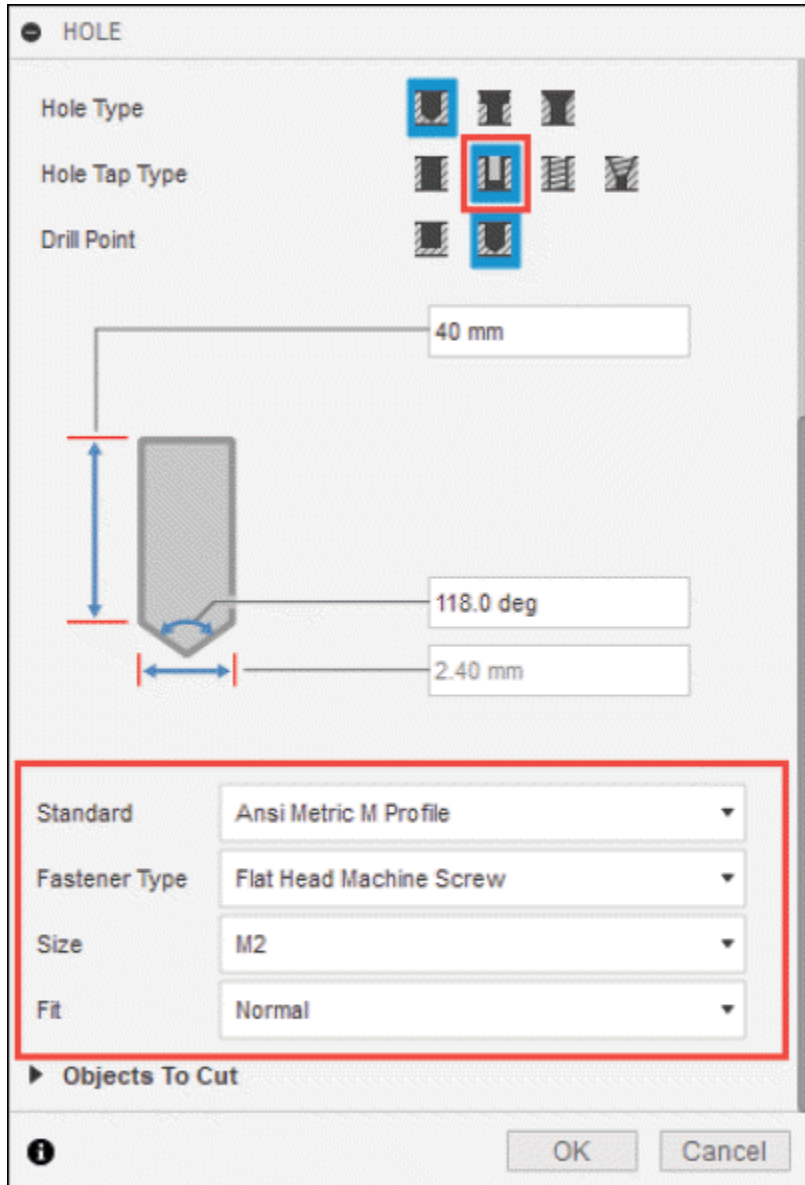

Figure-46. Options for clearance hole tap type
- Select the **Clearance** button to create standard holes with defined fit. The options will be displayed accordingly; refer to Figure-46. Select desired options to define size of hole.